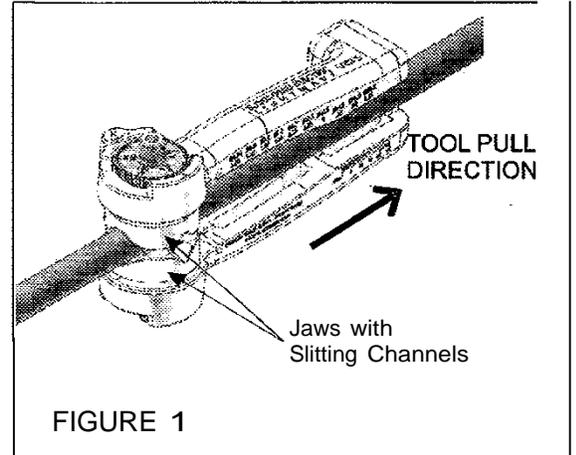

FIGURE 1
3. Open the tool and place over the Tube. See Figure 1. Firmly grasp the handles and pull in the direction shown.